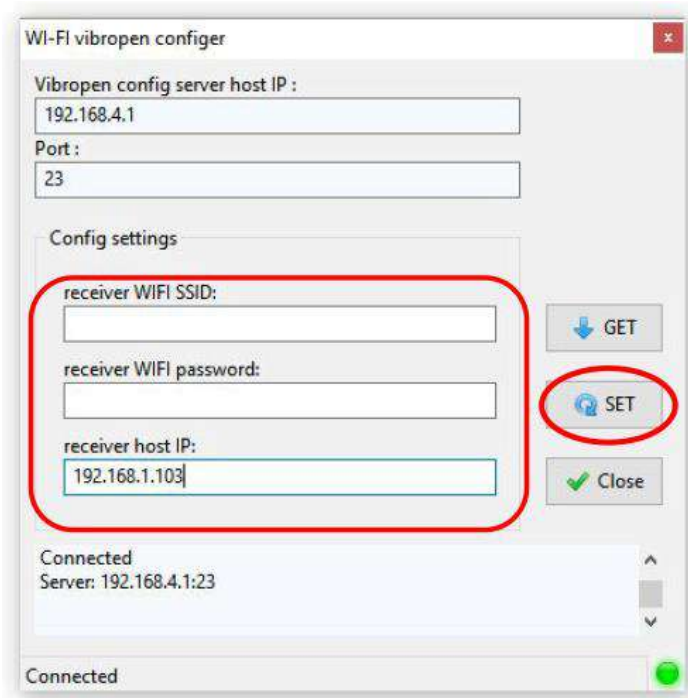

Figure 1.4 - Device configuration using the vibropen_configer.exe application
4. Fill in the fields for the vibrometer configuration (Fig. 1.4):